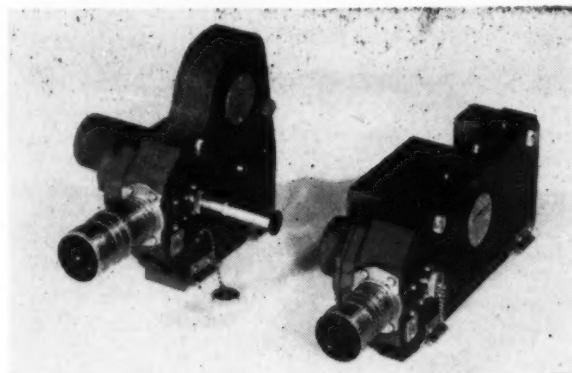

Fig. 1. Two Motion Analysis Cameras; one designed for general industrial use is left, the other is for airborne use.
**D**ESIGNED specifically to complement airborne radar equipment, the **Clutter-Operated Anti-Clutter (COAC)** Receiver uses impulses returned from a "cluttered" target to automatically adjust the radar set to each element of the target. These target elements are now shown as well-defined individual images. Without the new device, radar equipment favors the largest target on the screen, to the extent that small images, returning a lower level of reflected energy, tend to blend in with the fringe of the larger image, and can be completely obliterated by the stronger target (Fig. 1-A). The new unit preserves high incremental gain for signals of narrow dynamic range and compresses stronger signals, and signals having a large dynamic range, by as much as 80 db (Fig. 1-B).
Fig. 1. "A" shows image of a typical New Jersey metropolitan landscape on a radar set not equipped with the COAC unit. Bridges, buildings, water towers, and other promontories tend to blend together as one basic image with several poorly defined smaller spots. "B" shows the same view on a COAC-equipped unit with each element shown individually on the screen. The more specific information gives navigators better landmark guides and tells them in greater detail the nature and number of obstacles which may be in the flight path. The COAC unit automatically adjusts to images returning a smaller degree of reflected energy while still retaining the individual outline of larger images.
THIS lightweight airborne 16-mm high-speed camera, capable of 2000 pictures per second, will withstand 100 g's shock and operate at 50 g's constant acceleration. Another model has been designed for 5000 pps. Called the "Motion Analysis Camera" (MAC), it uses rotating prisms, and can be adapted to many uses. Industrial and airborne models have film capacities of 100 and 200 feet, using daylight loading spools (Fig. 1).